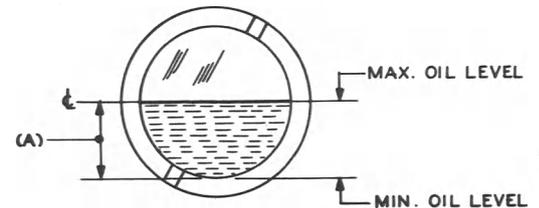

Fig. 1 - Oil Level Limits
- (1) Gear Cases - Drives With External Oil Pipes: Fig. 1(A) - The level of the oil shall not be above the center of the oil sight and not below the bottom of the oil sight.